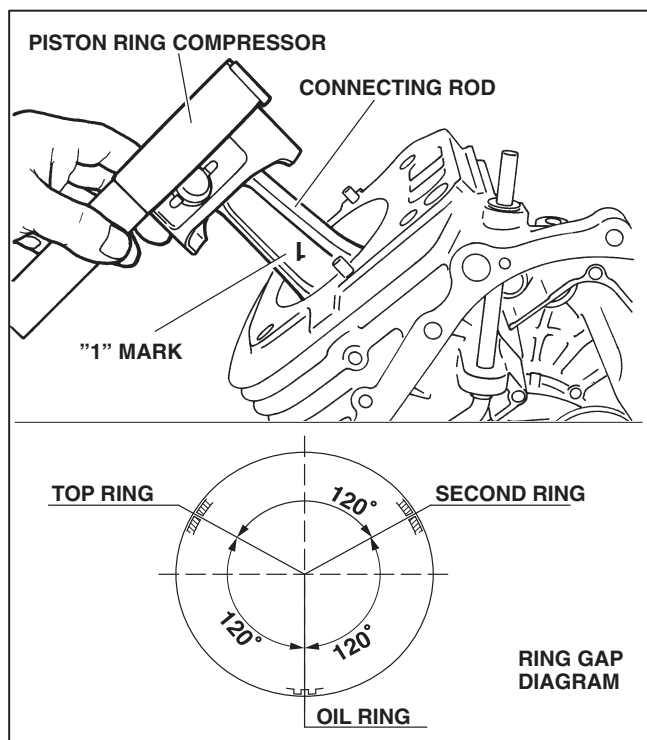

FIGURE 6-5.
- D. Arrange gaps of piston rings as shown in Figure 6-5.
- A. The "1" mark on the connecting rod for #1 cylinder and "2" mark for #2 cylinder should face towards the flywheel when inserted (Figure 6-5).